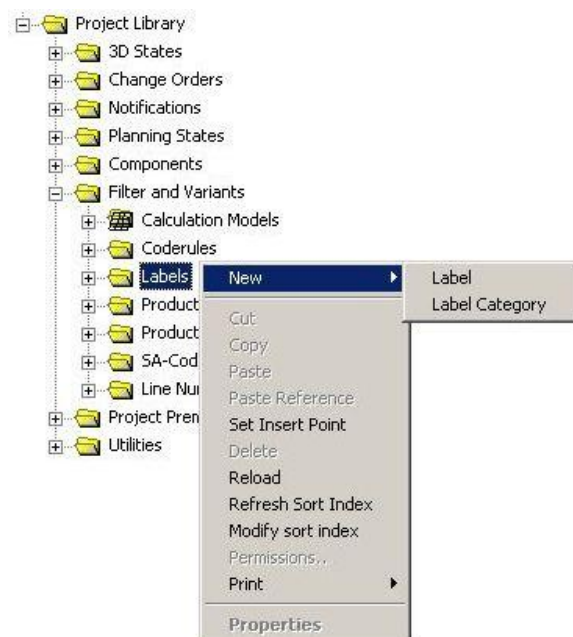

Figure 77: Creating New Labels and Label Categories
- 1) Open the project library and select under filter and variants the **Label** entry. Select **New** in the context menu and then select the object, which you want to create. *Please refer to the Figure 77.*
A label is created in the project library. *Please refer to the Figure 77.*
Like the label, a new label category is created with the context menu in the project library. *Please refer to the Figure 77.*